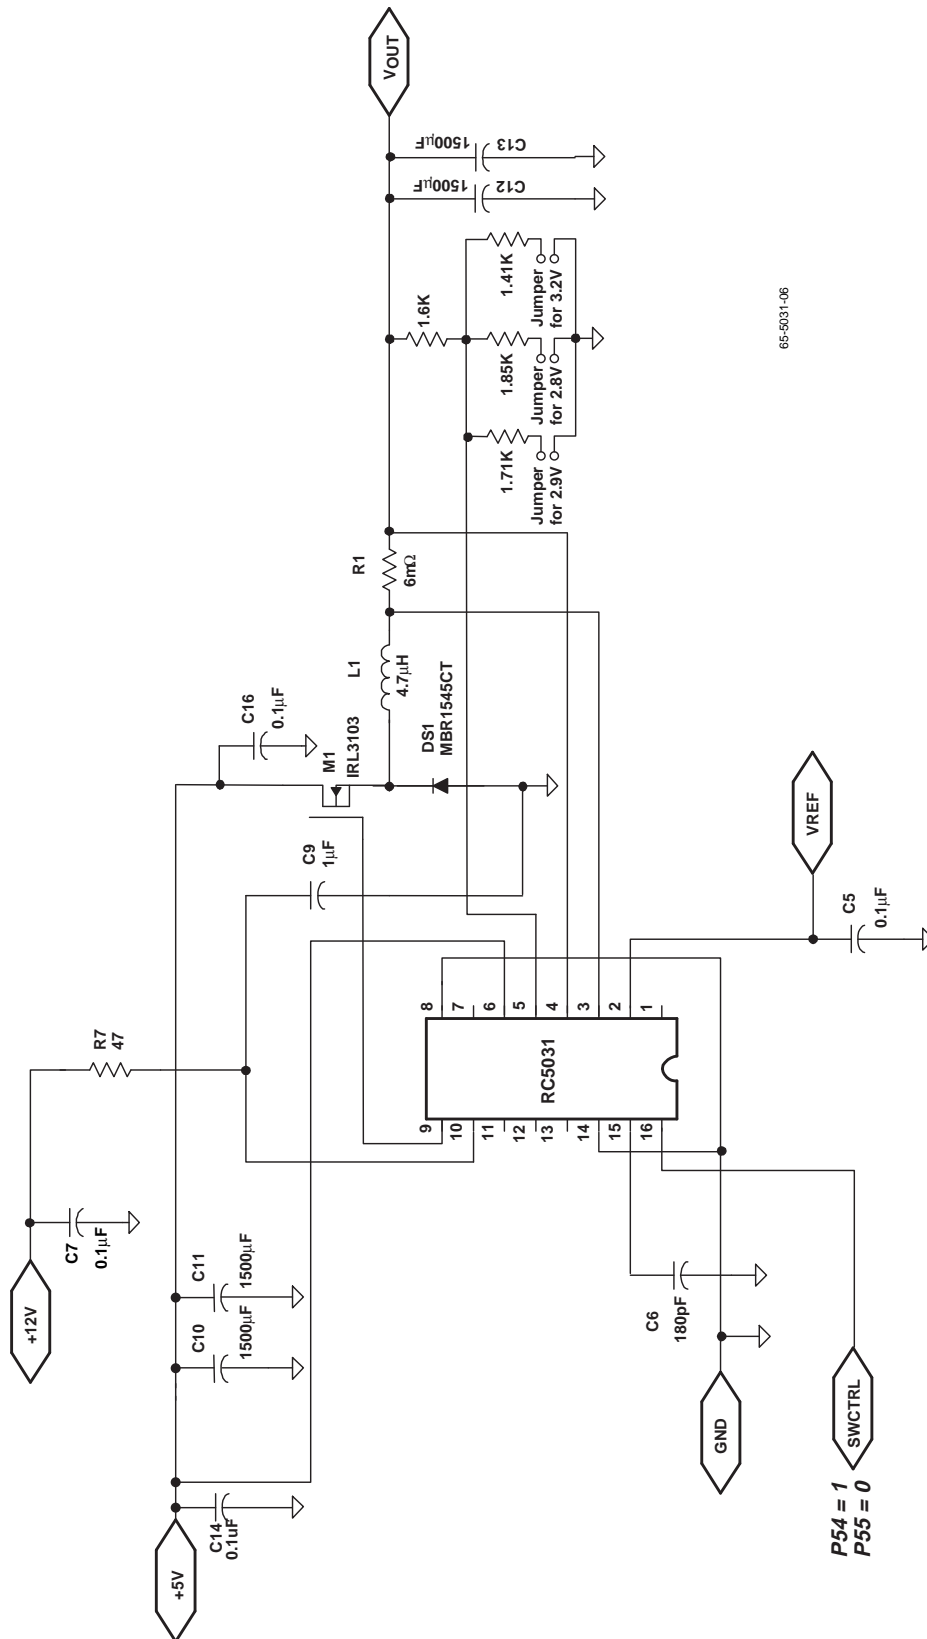

Figure 11. P54/P55C or K6 Single/Dual Power Supply Application Schematic
(VCCA = 5V, VCCP = 12V, T_A = 25°C using circuit of Figure 11, unless otherwise noted)
(VCCA = 5V, and T_A = +25°C using circuit in Figure 11, unless otherwise noted)
1. The Bill of Materials shown above represents the circuit configurations in Figure 11.
In Figure 11, MOSFET M1 and flyback diode DS1 are used as complementary switches in order to maintain a constant current through the output inductor L1. As a result, DS1 will have to carry the full current of the output load when the power MOSFET is turned off. The power in the diode is a direct function of the forward voltage at the rated load current during the off time of the FET. The following equation can be used to estimate the diode power:
For the Motorola MBR2030CTL Power Rectifier used in Figure 11,